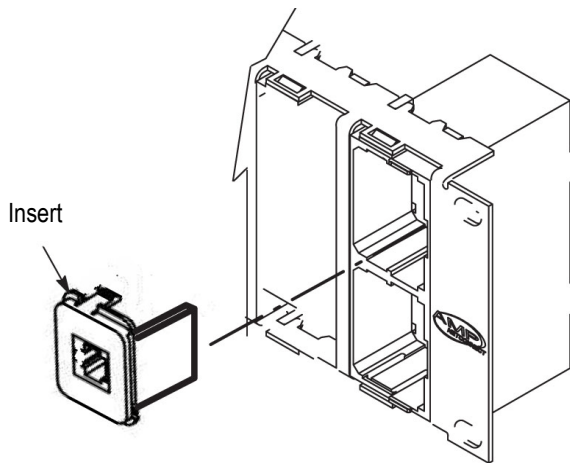

Figure 7
5. System inserts are inserted from the front of the panel, see Figure 7.